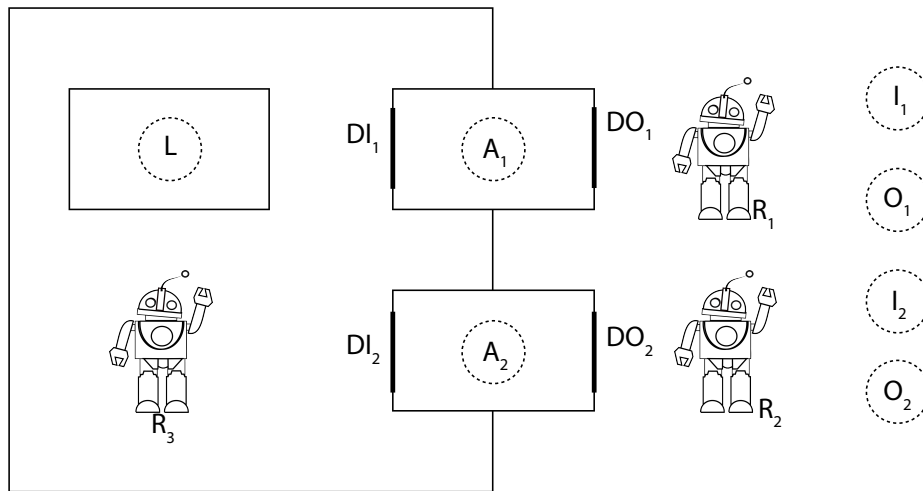

Figure 1: Schematic depiction of an extended machine.
A sketch of the system is shown in Figure 1. The machine consists of a UV lamp (L) that is to project a design onto a wafer exactly once per wafer. This is done in a vacuum chamber, in which wafers can be inserted through two airlocks (A_1 and A_2). Inside the vacuum chamber, there is a robot (R_3) that can move to the projector (L) and the airlocks (A_1 and A_2), and that can pick up or drop a wafer at these locations.